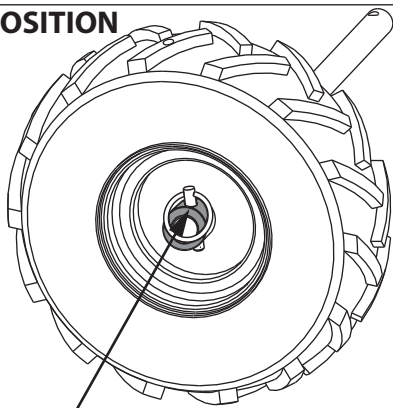

FIGURE 11 WHEEL LOCK PIN IN TILLING POSITION
1. Remove lock pin. Slide wheel slightly outward away from machine. Align hole in axle with hole in wheel hub. **SEE FIGURE 11 (Next Page)**